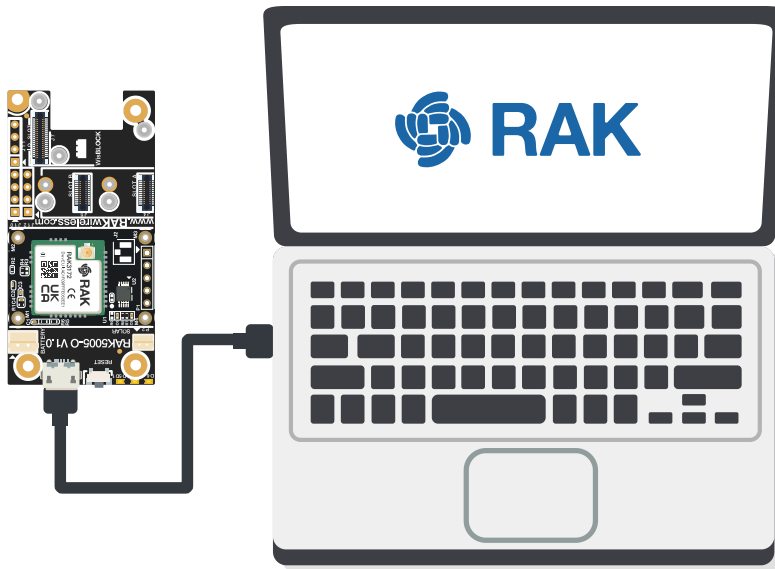

Figure 21: RAK3172 EVB Connection
1. Connect the RAK3172 evaluation board to the general-purpose computer USB port via a micro USB cable, as shown in **Figure 21**.